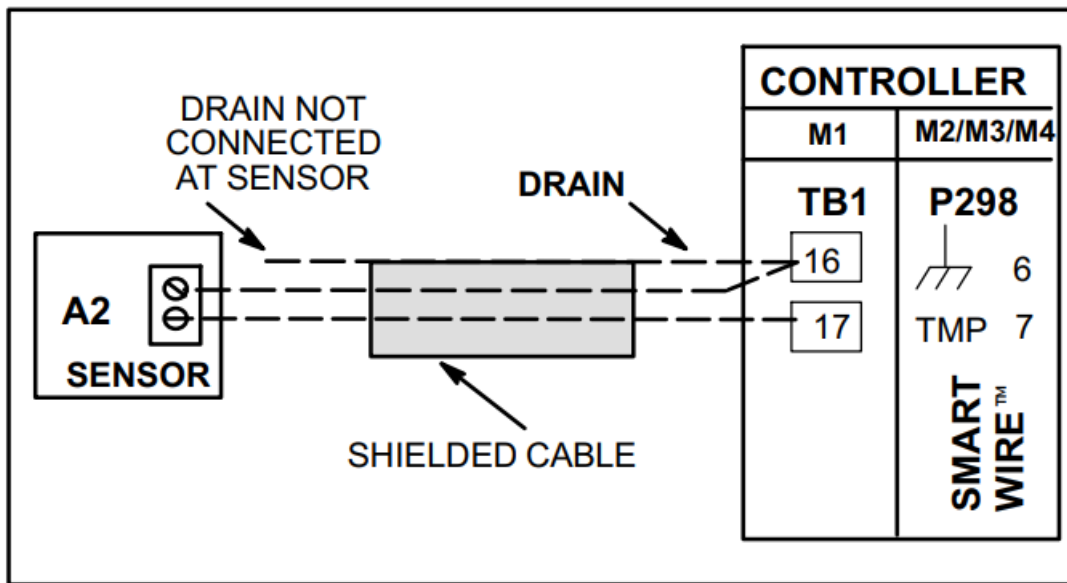

Figure 1. Sensor Wiring
1. Route cable from the unit controller to an appropriate location in the conditioned space. Make wire connections to the unit as shown in figure 1.
6. Connect wiring to the sensor as shown in figure 1. When the use of the data port is desired on 56L80 and 94L60 sensors, make communication wire connections as shown in figure 5.
1. Route cable from unit controller to an appropriate location in the conditioned space. Make wire connections to the unit as shown in figure 1 (see Page 1).